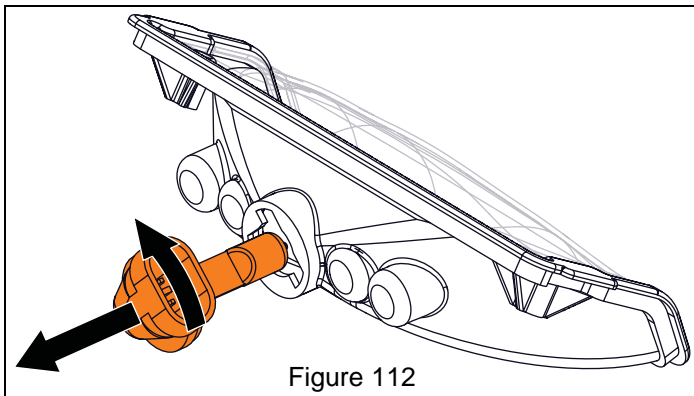

Figure 112
6. Turn bulb one-eighth turn counterclockwise and remove from headlight housing. See Figure 112.